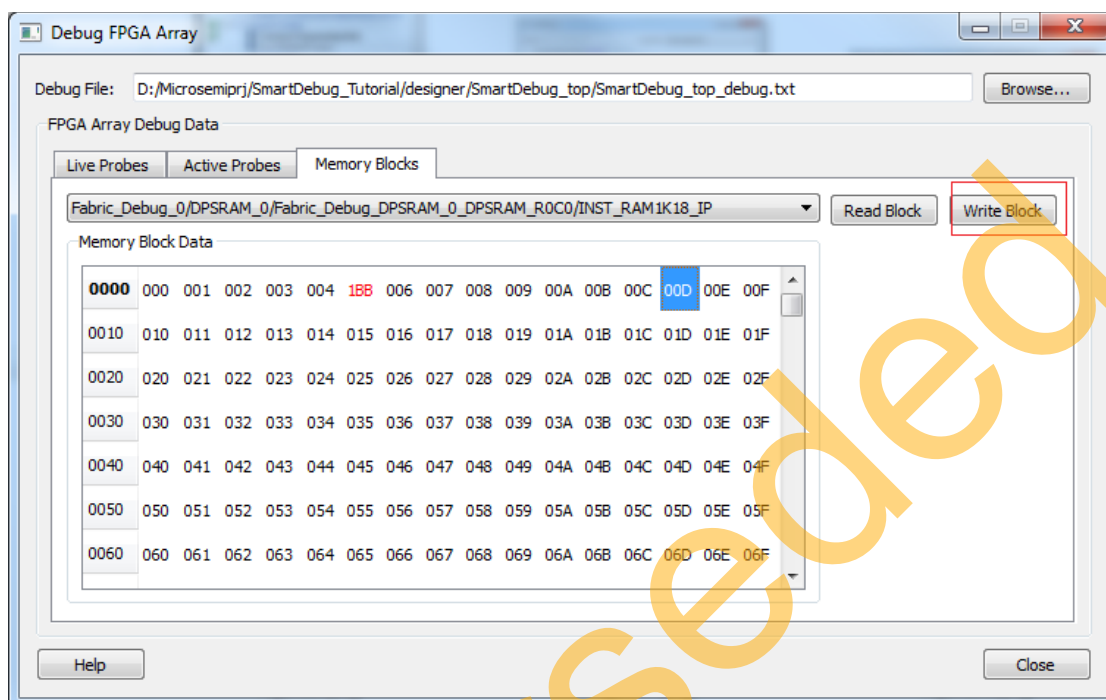

Figure 20 • Modifying DPSRAM Contents
7. Modify the value from the current value to break the count pattern, as shown in Figure 20.